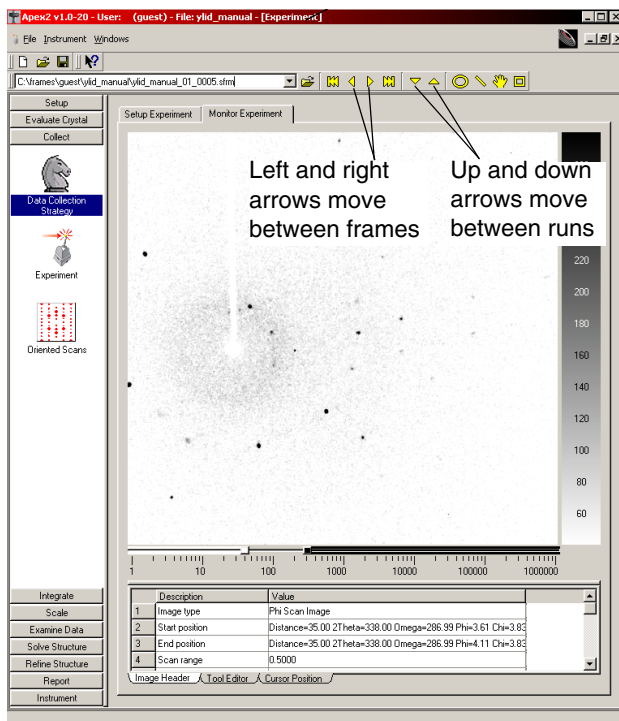

Figure 6.5 - Monitor Experiment view
- Click on Execute. The view will shift to the Monitor Experiment view (see Figure 6.5). The program will collect a series of three runs with twelve frames per run. This typically takes less than ten minutes. The images will stop changing when the experiment is done. It is not necessary to wait for all runs to complete before proceeding to the harvesting step (step 6.2.2).
NOTE: The format for frame names is shown in Figure 6.5. APEX2 assigns every frame a name. For this figure, the name is ylid_manual_01_005.sfrm. This means that the frame is for the project ylid_manual and that this is the fifth image of the first run.